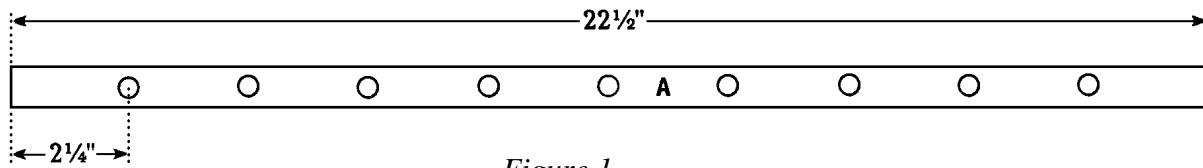

Figure 1
1. Cut four Rack Supports (A) from 1 x 1 pine, each measuring 22-1/2 inches.
2. Holes must be drilled in each of the four Rack Supports (A) to accommodate the dowel rods that hold the plates. It is very important that the holes are accurate and straight, or your finished plate rack will be crooked. Refer to the measurements in *Figure 1*, and drill nine 3/8"-diameter holes in one Rack Support (A). Note that the holes are centered widthwise on the Rack Support (A), and 2-1/4 inches apart on center.